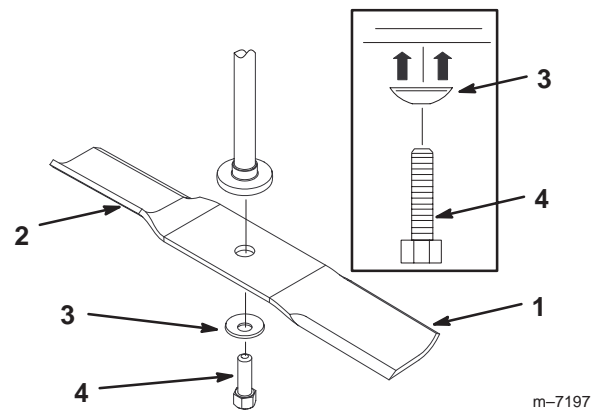
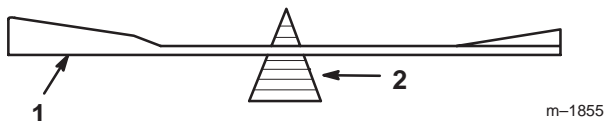

Figure 36
Figure 38
Hold the blade end using a rag or thickly-padded glove. Remove the blade bolt, curved washer, and blade from the spindle shaft (Fig. 36).
2. Check the balance of the blade by putting it on a blade balancer (Fig. 38). If the blade stays in a horizontal position, the blade is balanced and can be used. If the blade is not balanced, file some metal off the end of the sail area only (Fig. 36). Repeat this procedure until the blade is balanced.
1. Install the blade onto the spindle shaft (Fig. 36).
2. Install the curved washer (cupped side toward the blade) and blade bolt (Fig. 36). Torque the blade bolt to 35–65 ft.-lb. (47–88 N·m).